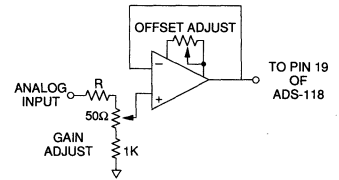
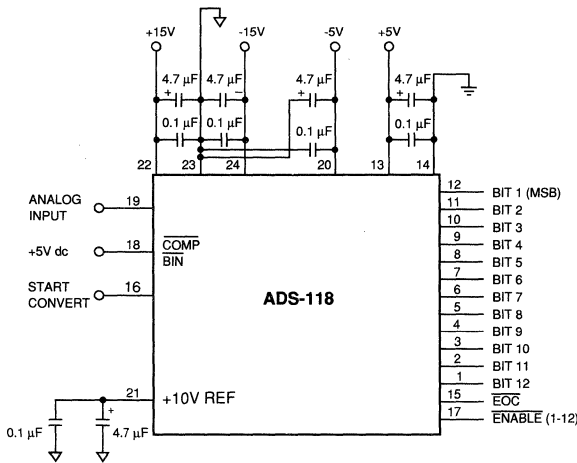

Figure 4a. Optional Bipolar Calibration Circuit
Figure 3. Typical ADS-118 Connection Diagram
1. Applications which are unaffected by endpoint errors or remove them through software will use the typical connections shown in Figure 3. Remove system errors or adjust the small initial errors of the ADS-118 to zero using the optional external circuitry shown in Figures 4a and 4b. The external adjustment circuit has no affect on-the throughput rate.
1. Connect the converter per Figure 3 and Figure 4 for the appropriate full-scale range (FSR). Apply a pulse of 45 nano-seconds to the START CONVERT input (pin 16) at a rate of 250 KHz. This rate is chosen to reduce flicker if LED's are used on the outputs for calibration purposes.